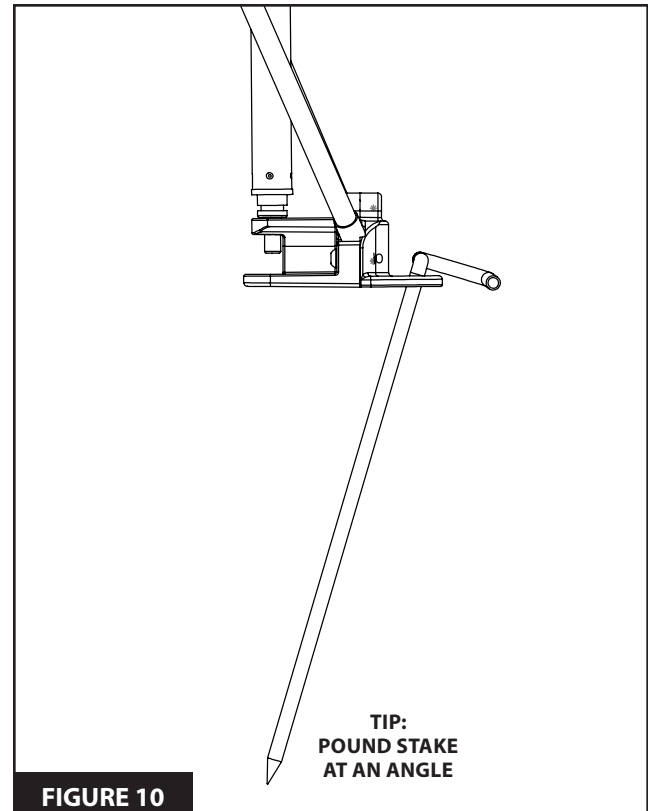

FIGURE 10
16. Remove the ground stakes from bag. Pull each corner outward (taut). Pound a long straight ground stake in hole located on outside bottom corner hub. **SEE FIGURE 10.** Repeat for all four corners.